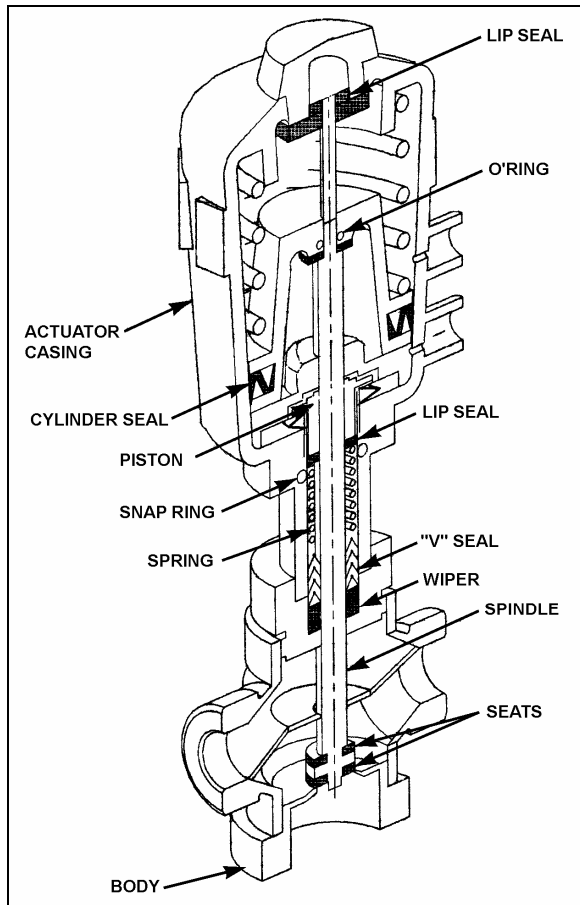

FIGURE 49: PNEUMATIC WATER VALVE
- b) The water valve need not be removed from the line. Unscrew nipple, the actuator casing, tube, spindle and closure member can be removed (Fig. 49).
- b) Tighten the nipple in place in the body cavity as per figure 49. Fasten pilot solenoid valve to the pneumatic water valve. Reconnect air supply pressure and electrical current to the pilot solenoid valve.